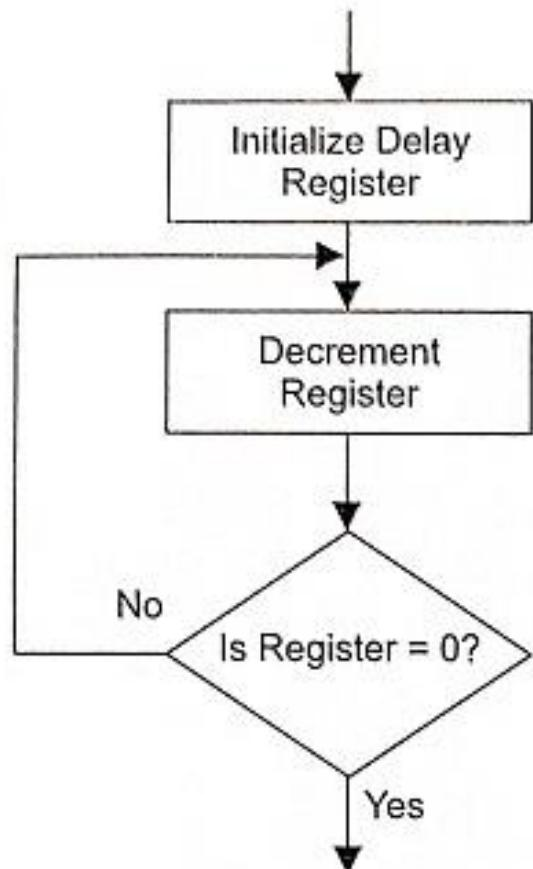

Fig. 4.9 Flowchart for time delay using a register
- ❖ Figure 4.9 shows the flowchart of time delay loop using **One register**.